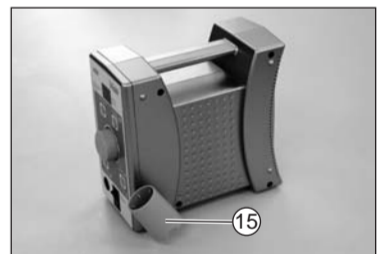

Fig.6
Mount Handpiece Holder⑮ at either side of the control unit. Adjust the angle and tighten the screw. (Fig. 6)
*Handpiece Holder⑮ can be mounted at either side of the control unit.